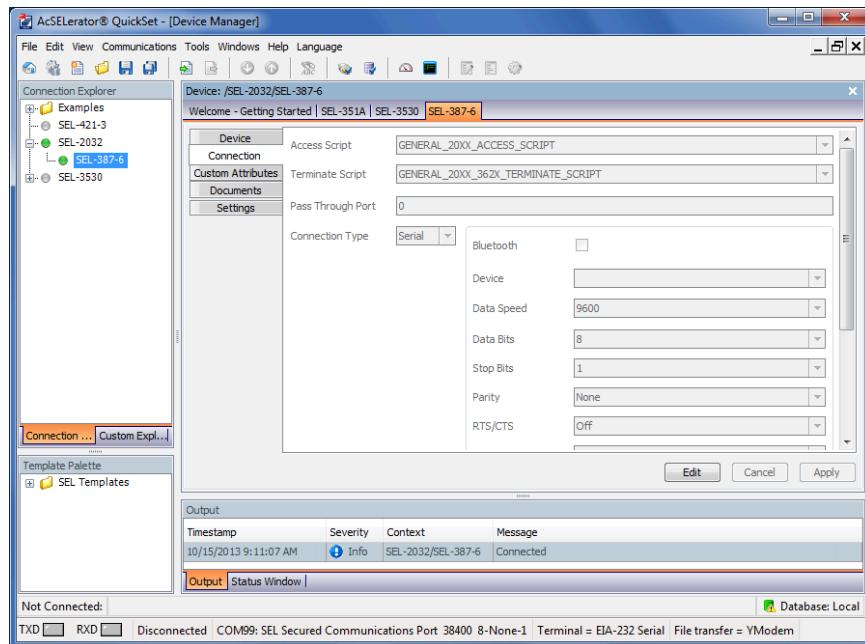

Figure 4.19 The Workspace Shows the Correct Connection Parameters for the SEL-387-6 Child Device
- Step 7. Select and drag an SEL-387-6 from the **Template Palette** into the **Connection Explorer**. Place the SEL-387-6 under the SEL-2032 as shown in *Figure 4.19*.